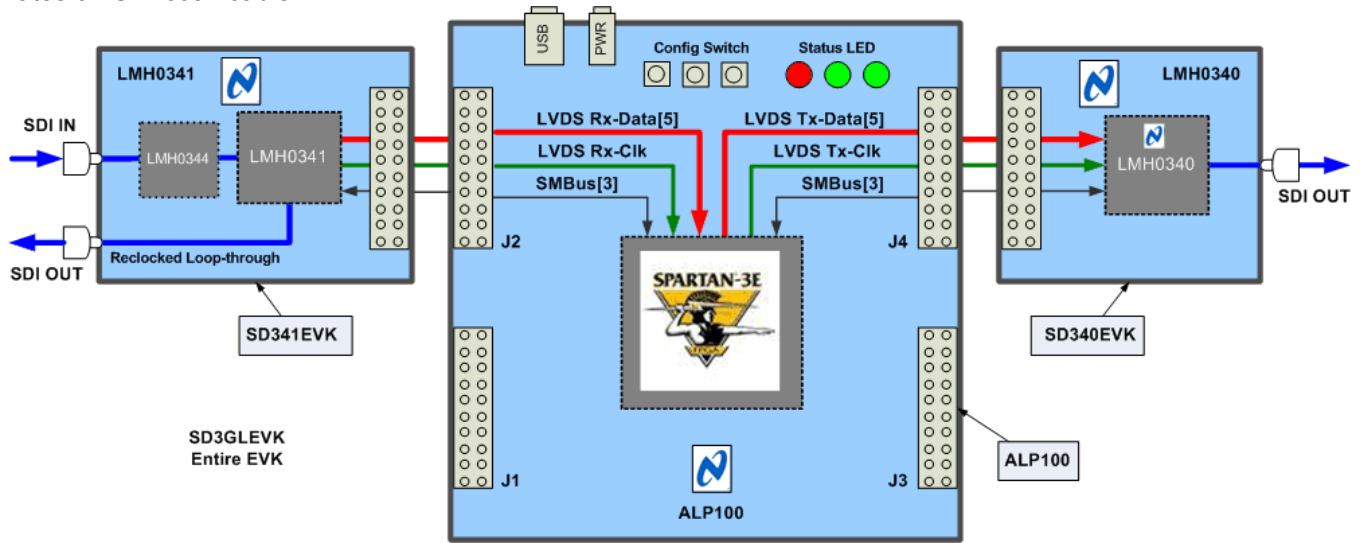

Figure 1) EVK Block Diagram
1. The LMH0340/LMH0341 EVK comes assembled with the deserializer board connected to J2 of the main board and the serializer board connected to J4 of the main board. This can be seen in Figure 1 and 2, Section 3.